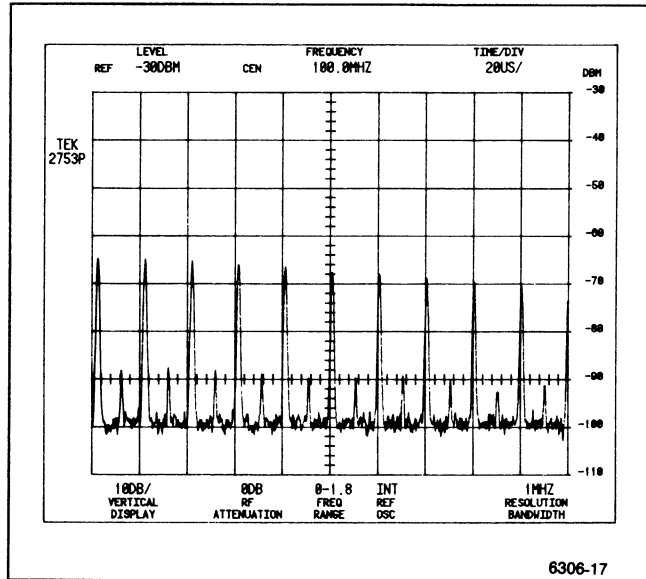

Figure 4-6. Typical display for measuring Time/Div accuracy.
d. Use the horizontal POSITION control to align a marker on the 1st graticule line (see Figure 4-6), then check the displacement of markers from their respective positions over the center eight divisions. Individual marker displacement must not exceed 5% or 2 minor divisions.